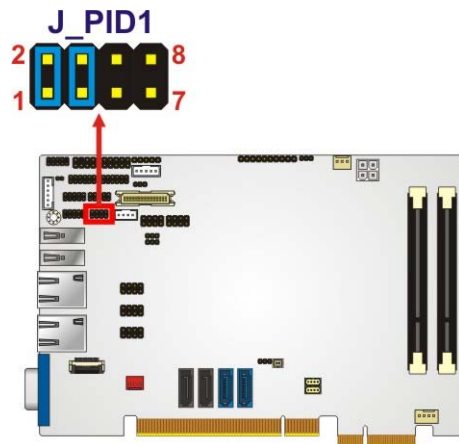

Figure 4-11: LVDS Screen Resolution Jumper Locations
- Jumper Location:** See **Figure 4-11**